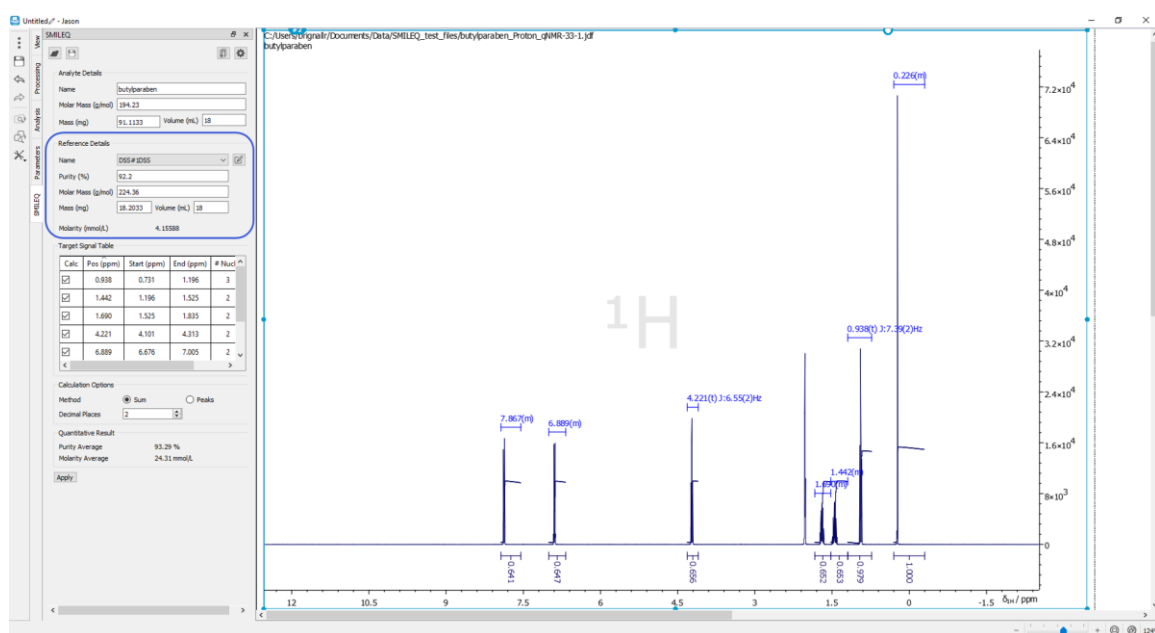

Figure 20: SMILEQ widget after selecting the reference
2. Select the SMILEQ widget and enter the required parameters in the sample information area (see section 2.1 for details of the necessary information and Figure 20).